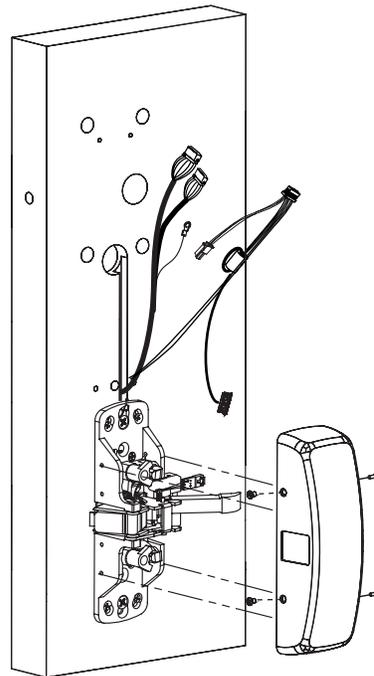

Fig. 8
Secure chassis cover to chassis using (4) #8-32 x 5/16" oval head machine screws (Fig. 8).